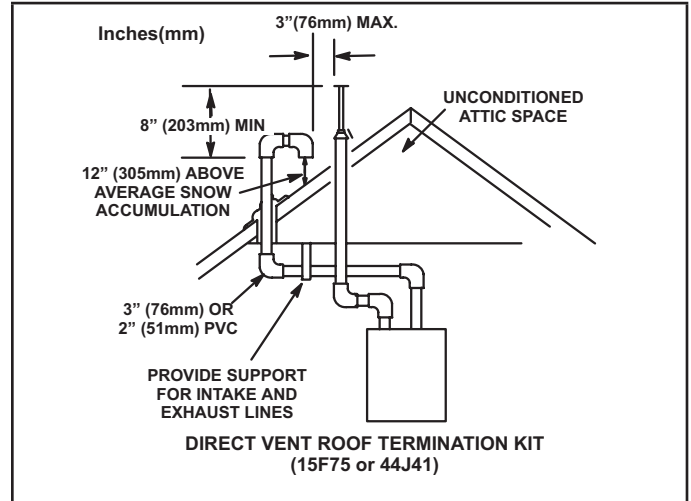

FIGURE 34
Intake and exhaust pipes may be routed either horizontally through an outside wall or vertically through the roof. In attic or closet installations, vertical termination through the roof is preferred. FIGURE 34 through FIGURE 42 show typical terminations.
- 3 - On roof terminations, the intake piping should terminate straight down using two 90° elbows (See FIGURE 34).